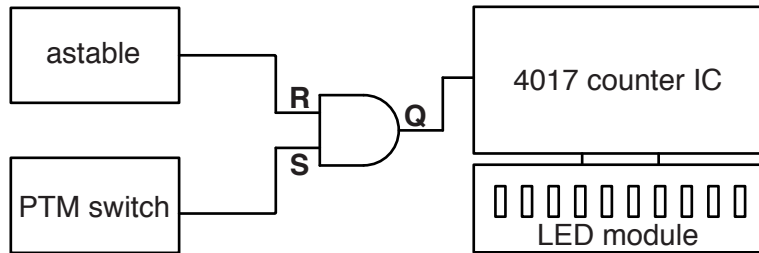

Fig. 13
- 10 (a) A student wishes to make an electronic counter that will generate numbers from 0 to 9. Fig. 13 shows a block diagram of the system that will be used to control the length of time that the counter will ‘roll’ for before settling on one number. The 4017 counter IC counts from 0 to 9 repeatedly; each output will control one LED. The two inputs are an astable signal and a push to make (PTM) switch. The two inputs are an astable signal and a push to make (PTM) switch.
(v) Name the logic gate used in Fig. 13 and complete the truth table below for the gate.